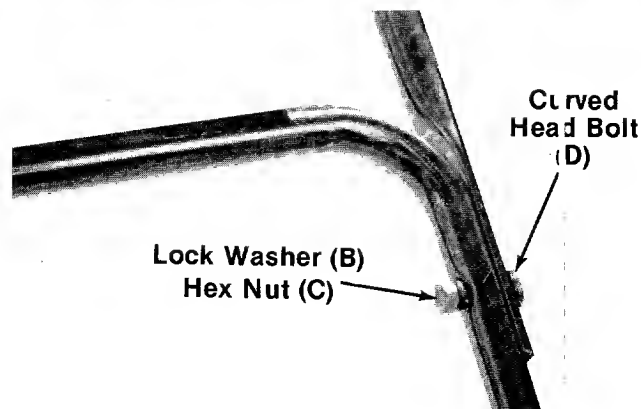

FIGURE 3.
4. Place the upper handle in position over the lower handle. The control housing must be on the left hand side of the handle. Secure the left hand side of upper handle using the curved head bolt (D), lock washer (B) and hex nut (C) as shown in figure 3.